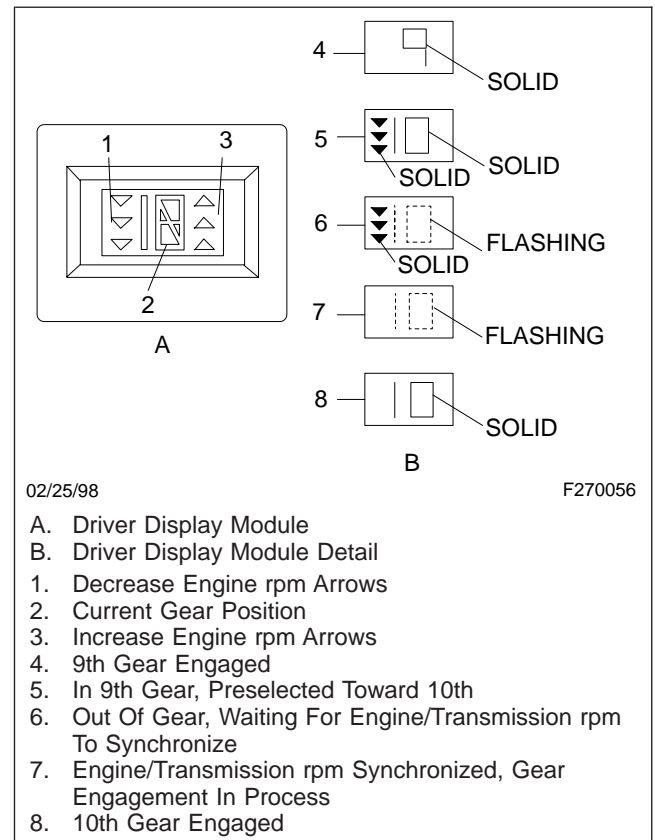

Fig. 8.25, Driver Display Module (DDM)
- The Driver Display Module, or DDM (**Fig. 8.25**), mounted on the dashboard, indicates gear position and the direction engine rpm needs to go for the next gear engagement. When the gear select lever is in the "D" position, the display module indicates what the driver must do to engage the next gear (decelerate or accelerate) by down and up arrows. When the gear number is solid on the display, that gear is fully engaged. When the gear number is flashing the transmission is either out of gear, waiting for the engine and transmission to synchronize, or the next gear engagement is in process.
2. An audible tone sounds from the Driver Command Console when the transmission is ready to shift. The arrows on the Driver Display Module (Fig. 8.25) indicate the direction engine rpm needs to go to synchronize the next shift. The next gear is shown on the display. See Fig. 8.25.